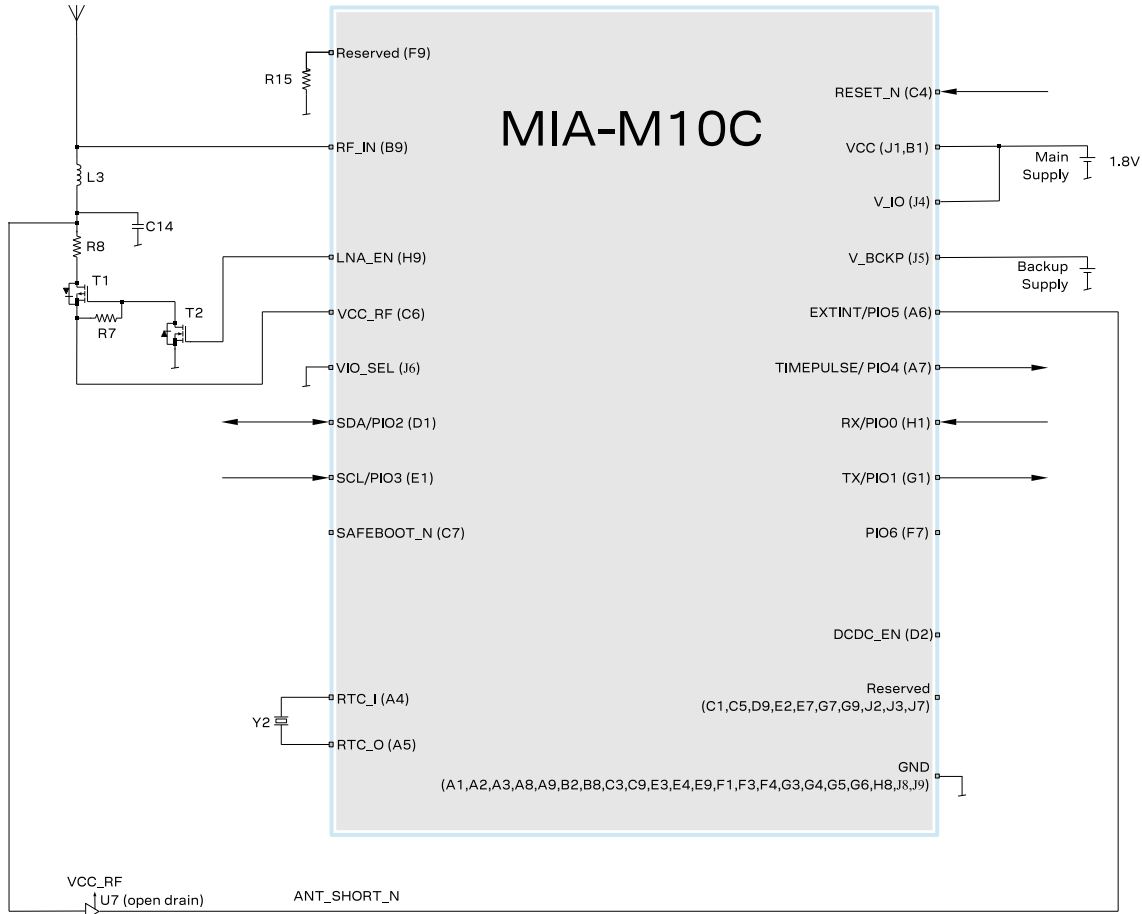
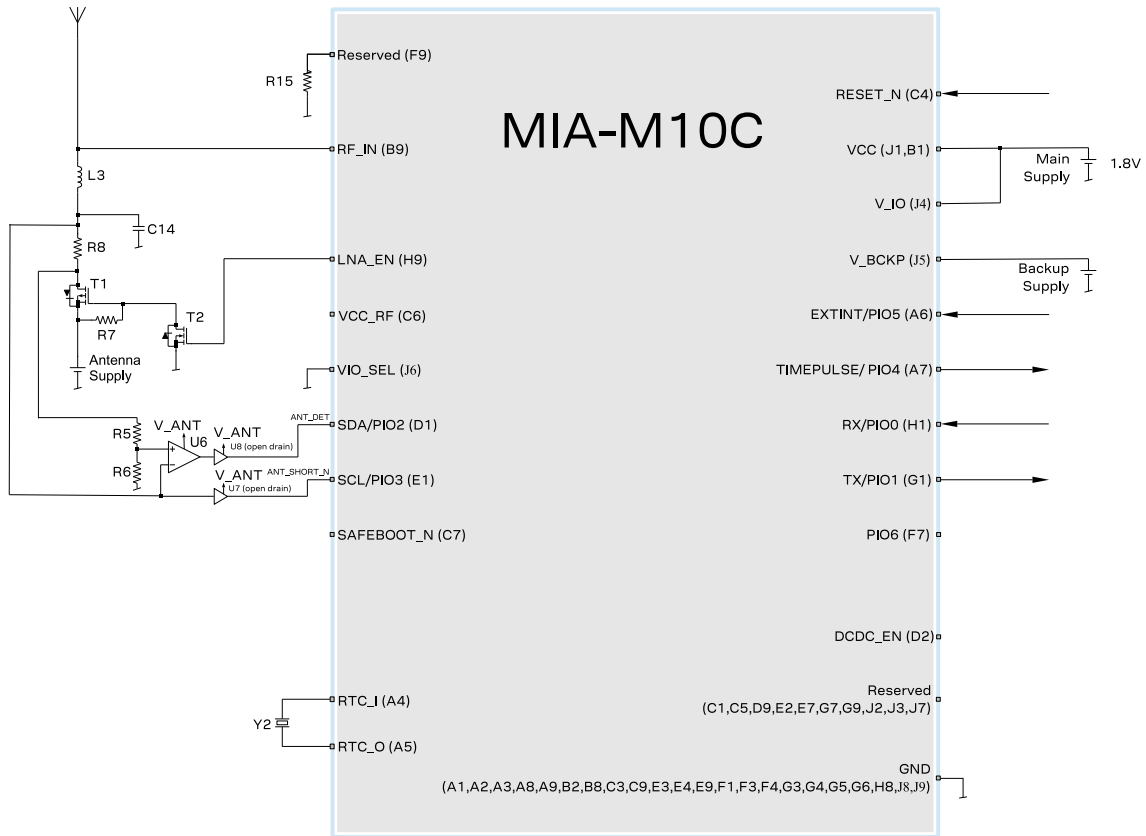

Figure 38: 2-pin antenna supervisor design
Figure 39: 3-pin antenna supervisor design
- This design uses an active antenna, which can be supplied either with the VCC_RF output from MIA-M10C, as shown in Figure 38, or from an external supply, as shown in Figure 39. It is also possible to use a passive antenna in the design. Only use a good quality passive antenna to avoid performance degradation compared to an active antenna setup.
Figure 38 and Figure 39 show a reference design for a 2-pin and 3-pin antenna supervisor design respectively. Here are some key features:
- UART and I2C communication interfaces are available. I2C PIOs (SDA and SCL) can be used in a 3-pin antenna supervisor design as shown in Figure 39. In this case, the I2C interface needs to be disabled before assigning the new function to the PIOs.
The 2-pin antenna supervisor configuration required for the Figure 38 reference design is listed in Table 36.
The 3-pin antenna supervisor configuration required for the Figure 39 reference design is listed in Table 37.